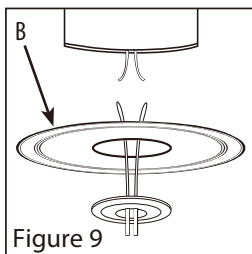

Figure 9
10. Insert the lighting fixture wires through the decorative medallion center hole (B), and place the decorative medallion onto the canopy (Figure 9). Note: Decorative medallion is held in place by installed fixture.